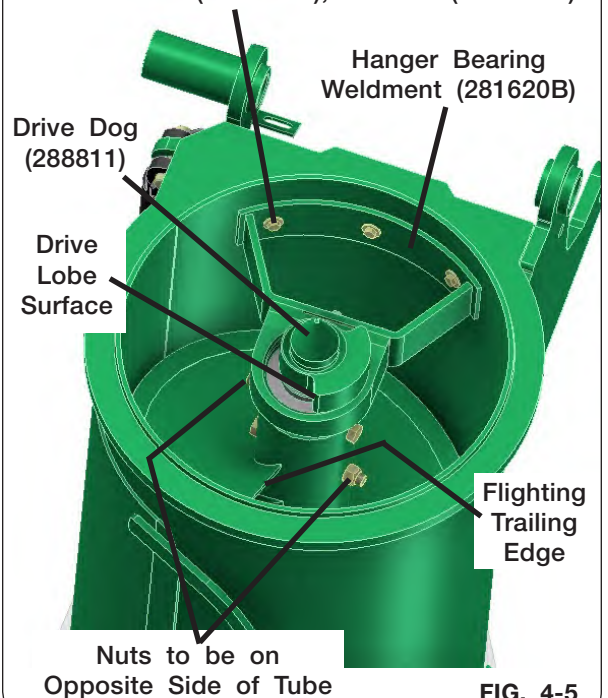

FIG. 4-5
4. Using a safe lifting device rated for a minimum of 700 lbs., install the lower auger sub-assembly into the lower auger housing. Align auger end with the three pin drive bushing and securely engage together. Secure hanger bearing to housing wall with three 3/8"-16UNC x 1 1/4" capscrews (9390-056), six 3/8" flat washers (9405-076), three 3/8" lock washers (9404-021) and 3/8"-16UNC hex nuts (9394-006) (Fig. 4-5).